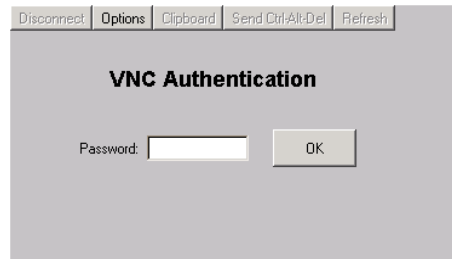

Figure C-2 VNC Authentication Screen
- c. After the server reboots, click *Login again*. The *VNC Authentication* screen displays (Figure C-2).